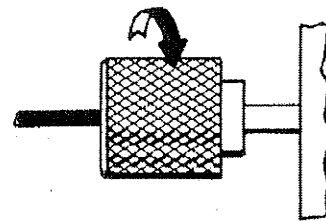

Figure 12 Tighten Gas Injection Fitting Nut
4. Secure the fitting nut finger tight. See Figure 12.